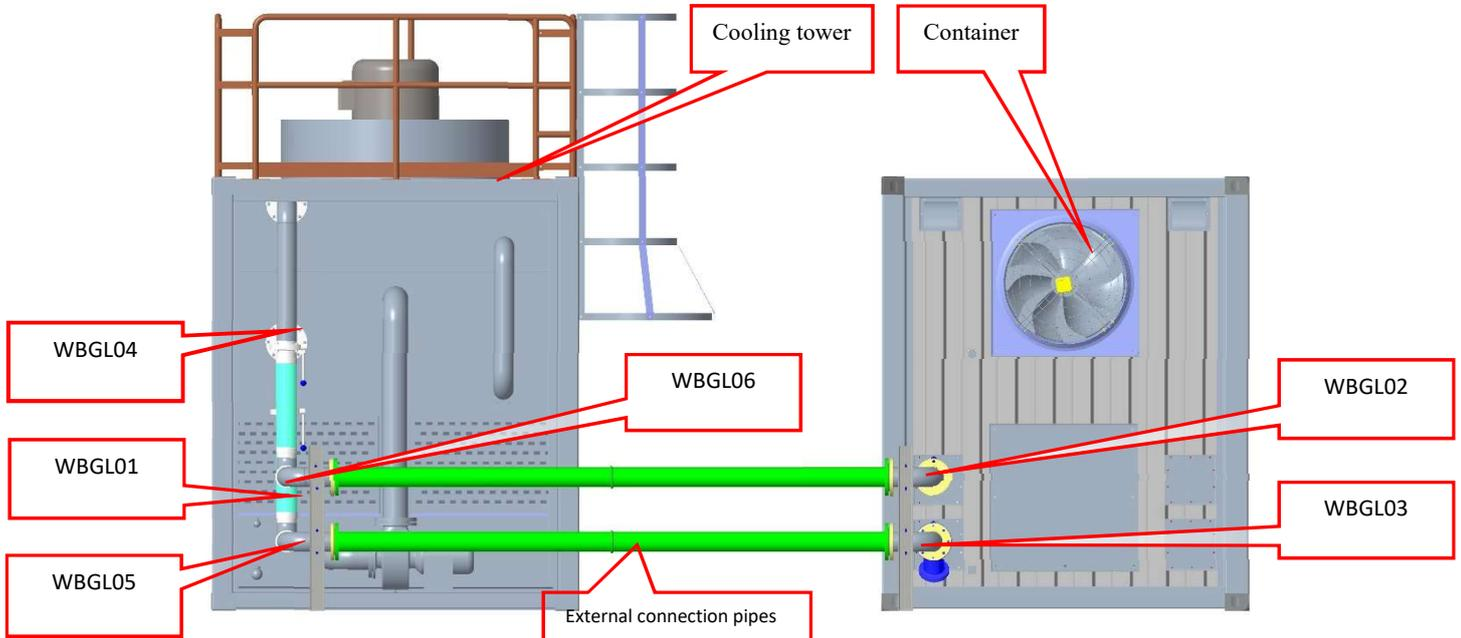

Figure 1-1 Overall appearance of the product
- 3) Connect the above pipelines according to the requirements of Figure 1-1 and Figure 3-1, with a total of 11 connections: 9 flange connections, with 8 single connection points, each with DN125 gasket 1; 2 chuck connections, with 1 single connection point, each with DN125 gasket 2; it should be noted that the gasket should not be damaged, worn or deformed.